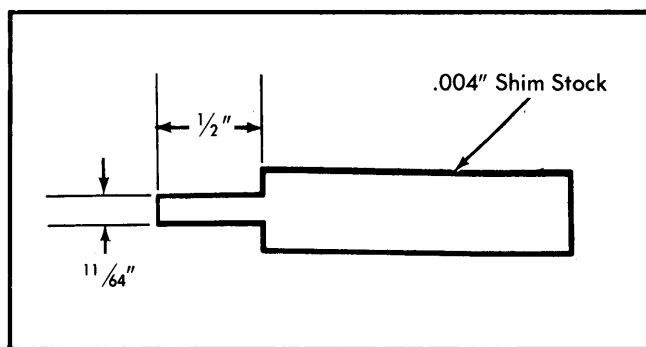

Fig. 5 Rear Main Bearing Oil Seal Installation Tool
3) Check components for scratches, nicks and defects. Before installation, fabricate a seal installation tool with a piece of .004" shim stock. See Fig 5.